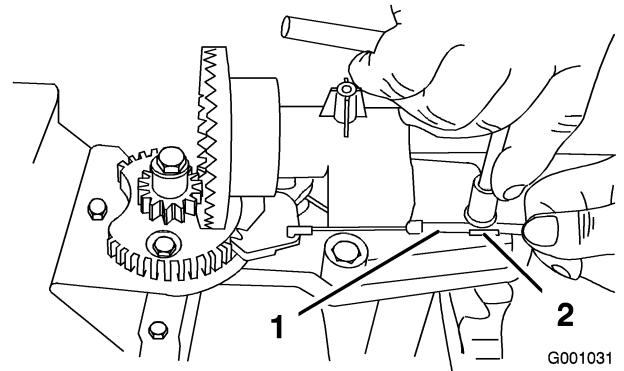
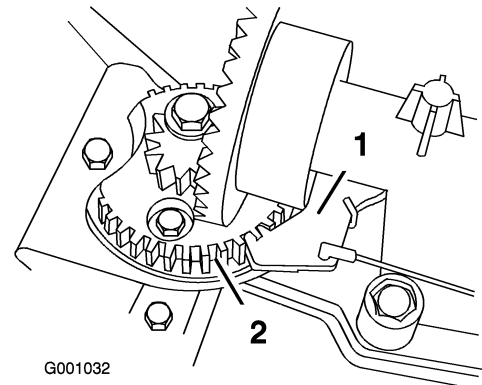

Figure 47
Figure 48
- Loosen the bolt on the cable clamp (Figure 47).
- Grasp the cable conduit and move it toward the front of the machine until the discharge chute latch fully engages the gear teeth (Figure 47 and Figure 48).
Note: The latch is spring loaded and will naturally move into the teeth of the gear (Figure 48).